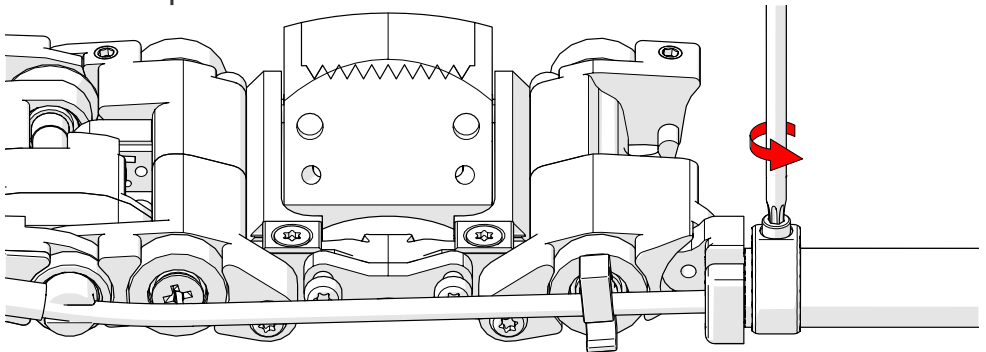

Fig. 58 - Remove sleeve clamp screw
1. Remove the sleeve clamp screw (Fig. 58) using the supplied Torx® driver (Fig. 22).